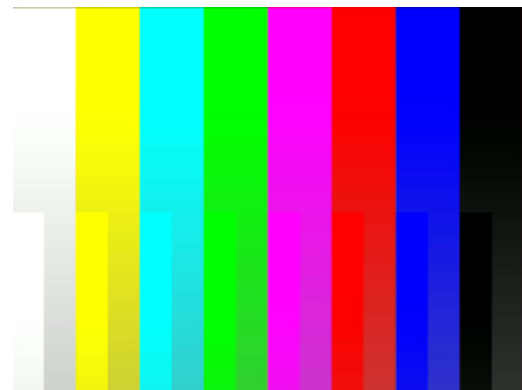

Fig. 1: 1280x960 sensor test pattern
- 8 1280x960@10fps, quality 80%, test pattern (see Fig. 1)